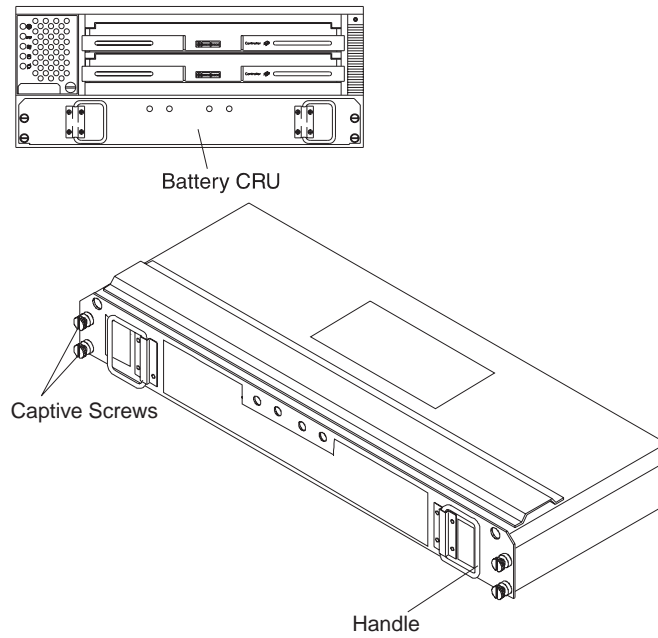

Figure 21. Battery CRU
The controller unit contains a portable, removable unit, called a *battery CRU*, which houses rechargeable batteries and a battery charger board. The battery CRU plugs into the front of the controller unit (Figure 21 on page 39) where it provides backup power to the controllers' cache memory. During a power outage, a properly charged battery CRU maintains electrical current to the controllers for up to three days. All data stored in memory will be preserved as long as the batteries can sustain power to the cache memory.
1. Prepare the new battery (Figure 21 on page 39).